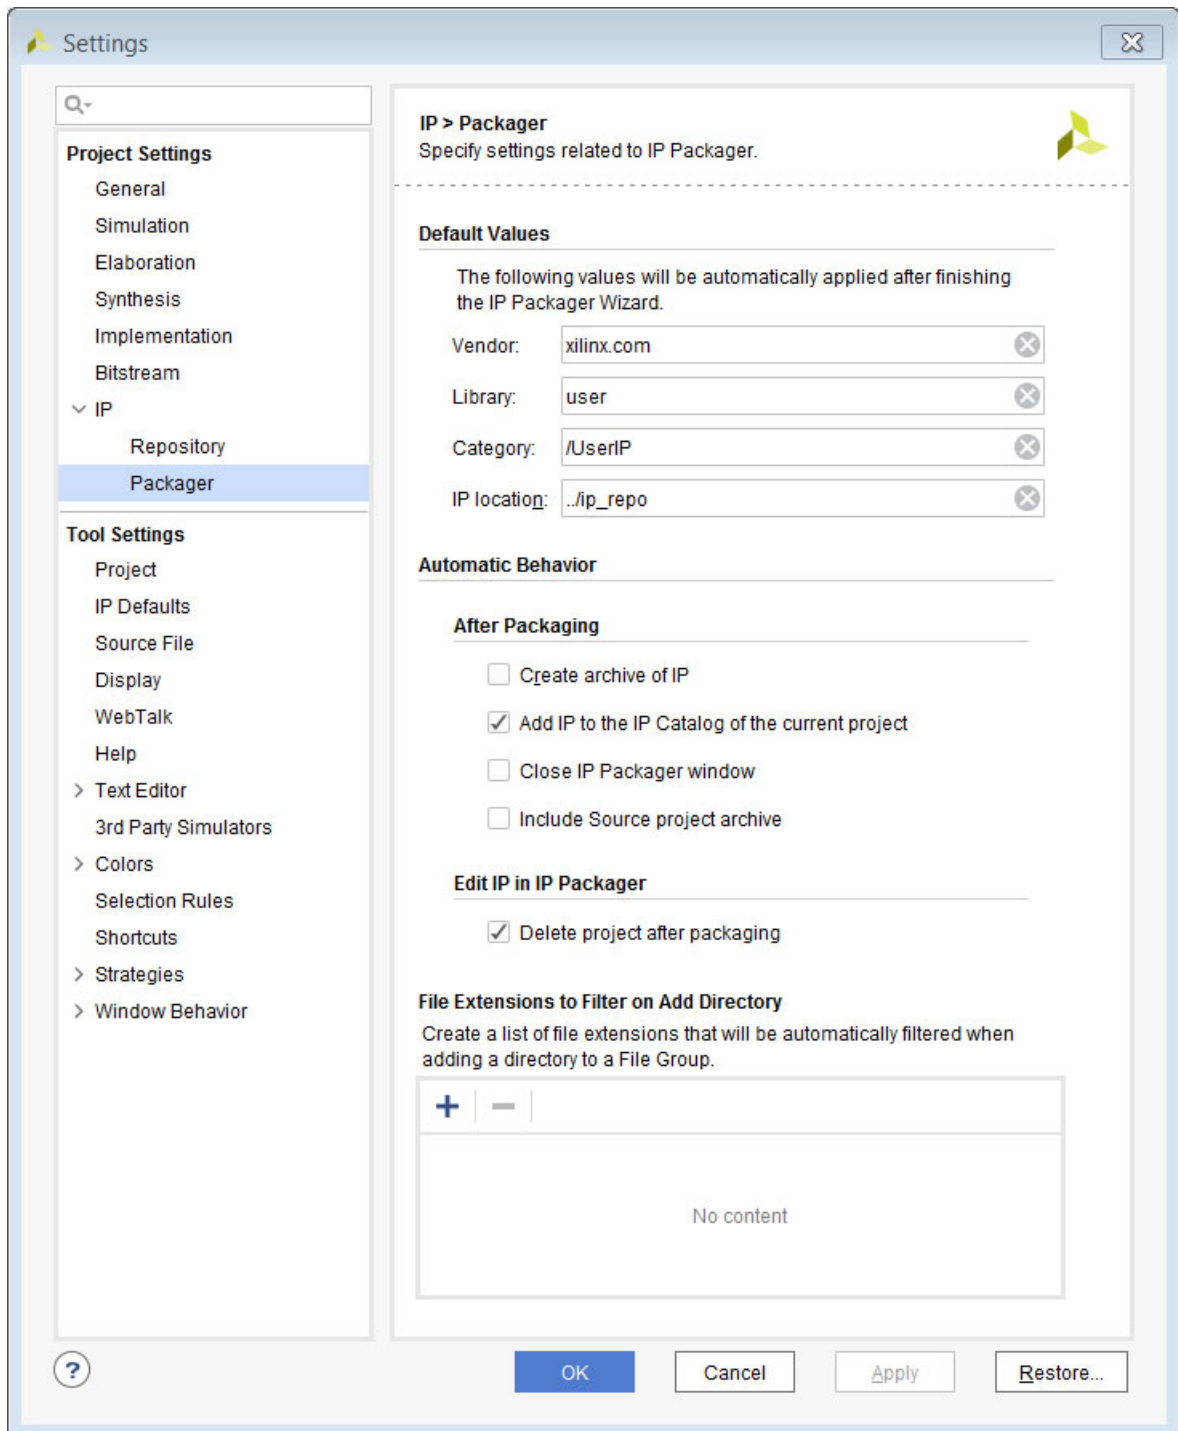

Figure 1-2: IP Project Setting: Packager
1. From **Tools > Settings**. Select **IP** from Project Settings, and click the **Packager** option under IP, shown in Figure 1-2.